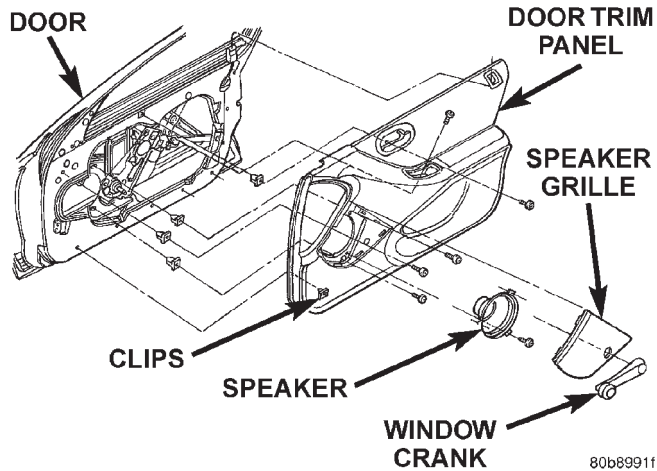
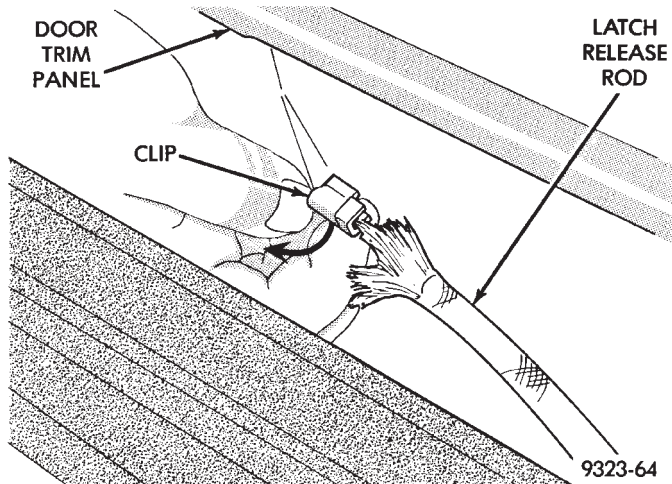

Fig. 28 Front Door Trim Panel
Fig. 29 Linkage Clip
- (5) Disengage clips attaching speaker grille to trim panel (Fig. 28).
- (6) Remove screws attaching door trim panel to door from around speaker opening.
- (7) Remove screw cap from bottom of arm rest pull cup.
- (8) Remove screw attaching arm rest pull cup to support bracket behind trim panel.
- (9) Remove screw cap from behind inside door latch handle.
- (10) Remove screw attaching door latch handle to door panel.
- (11) Disengage clips holding trim panel to perimeter of door.
- (12) Lift trim panel upward to disengage upper retainer channel.
- (13) Tilt top of trim panel away from door.
- (14) Disengage clip holding latch linkage to back of release handle (Fig. 29).
- (15) Remove door trim panel from vehicle.